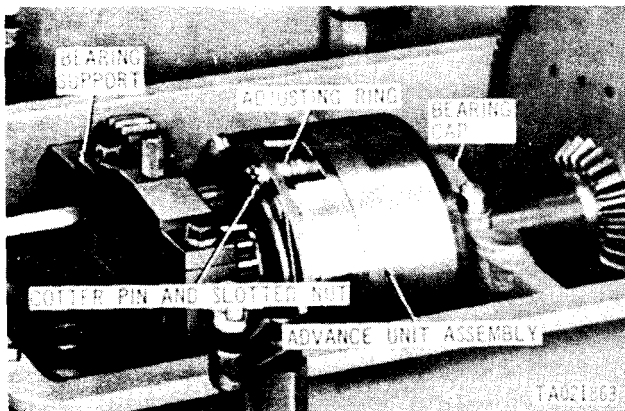

Figure 3-251. Fuel injection pump advance assembly mounting points.
(6) Turn the electronic counter switch, (3), "ON". The electronic components in the counter will reach operating temperature by the time the test is begun.
(7) Loosen fasteners and remove fuel injection pump drive housing cover from top of test stand. Remove the two bearing caps (fig. 3-251) and intermediate bearing support from the mounting fixture.
(16) Loosen fasteners and remove cover. Remove bearing caps and remove unit from bench. Remove oil transfer shaft. Place injection advance assembly on oil drain tray with small gear end up to drain and cool. Place advance assembly in a clean dirt free container, preferable a polyethylene bag, for storage.
(17) Repeats (9) through (14) above to check previous readings. If advance assembly fails to pass the test, it must be adjusted. Note whether advance assembly advances too soon or too late. Either condition can normally be corrected by rotating the advance flywheel adjusting ring (fig. 3-251).
to permit adjusting ring rotation (fig. 3-251).
(20) Rotate the adjusting ring (fig. 3-251) 1/16-inch toward the rear of the bench (retard position) if the advance assembly advanced too soon. Move the adjusting ring 1/16-inch in the opposite direction (advance position) toward operator, if the advance assembly advanced too late. Tighten the slotted nuts, install cover and repeat (3) through (14), above. When advance readings are within the prescribed limits, the advance assembly may be removed from the bench as outlined in (16) above. Secure the adjusting ring slotted nuts with cotter pins.